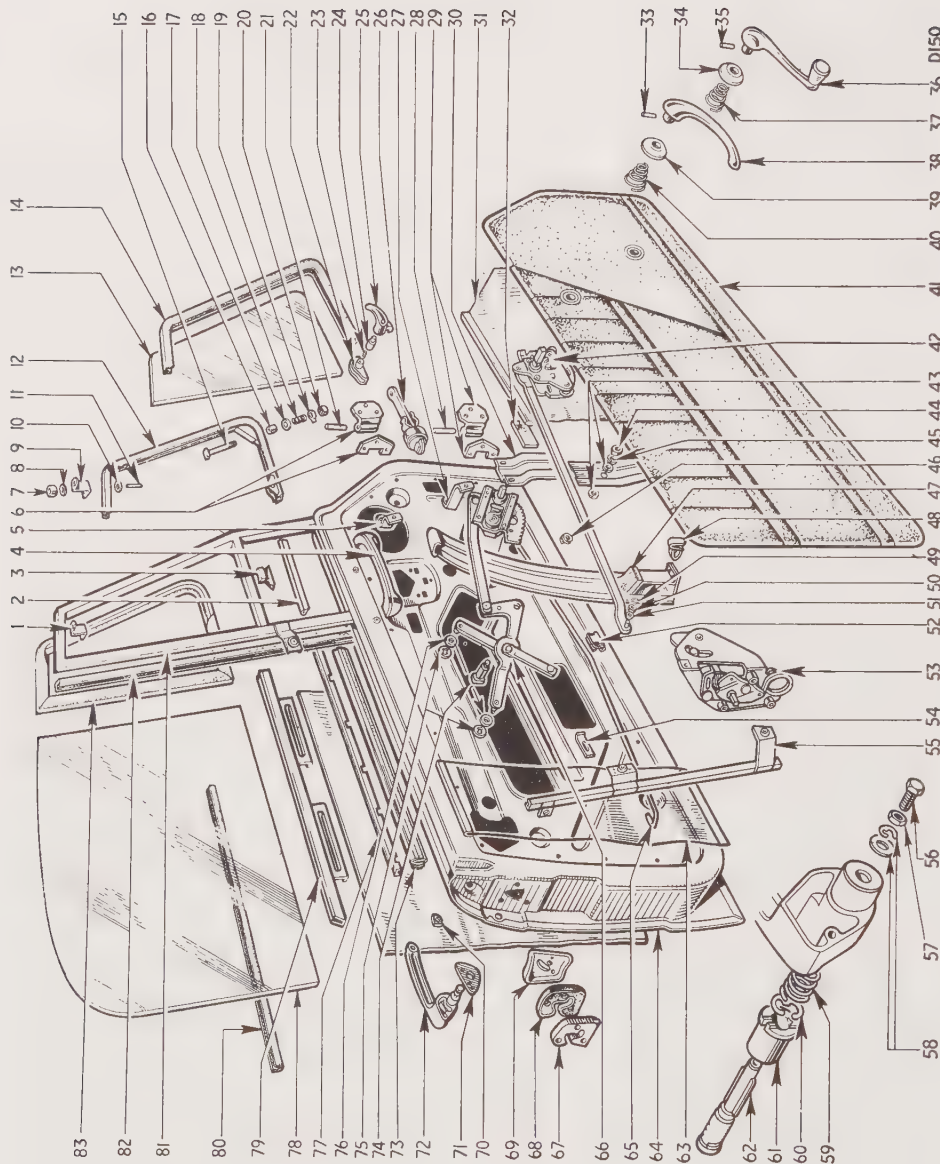

Fig 12:1 Components of door assembly, 'Vitesse'.
If removal of a door lock is required (for repair or replacement), first refer carefully to **FIG 12:1**, for clarification of parts. It is necessary first to take off the trim panel from the door interior; this in turn requires the removal of the interior handles. To do this, the escutcheon of the remote control lock handle is pressed back firmly against the trim panel, using a screwdriver with a broad blade. This exposes the retaining pin of the handle, and if this is pushed out (**FIG 12:2**), the handle and escutcheon can be pulled off the spindle. The window winding handle is dealt with in a similar manner.
The wooden cappings and pull-handles are next removed by taking out the screws. The trim panel is held by clips, and by inserting a screwdriver between the panel and door, and gently levering the retaining springs away from the door frame, as shown on **FIG 12:3**, the whole panel can be eased off without damage. The coil springs are then taken off the lock and winder spindles.
A door lock and control mechanism is shown on **FIG 12:4**. To remove a door lock (**FIG 12:5**) the window is first raised and the three screws taken out of the rear channel; lower the channel to the door bottom. Put the handle on the lock spindle, move it to the open position, and secure it in this position by inserting a pin through the hole just below and to the left of the spindle. Referring to **FIG 12:4** remove the circlip and washer connecting the pivot pin of the remote control link to the lever, and uncouple the link. Take out the four screws which secure the lock and dovetail plate to the door. Next press the lock inwards and down, until the latch and push-button can be passed inside the door. Turn the lock body so that the latch mechanism is underneath, and the side of the lock is between the window support channel and the lower edge of the small aperture in the door panel. The lock can then be moved downwards, and taken out through the large aperture. When replacing the lock, first
- Key to Fig 12:1**